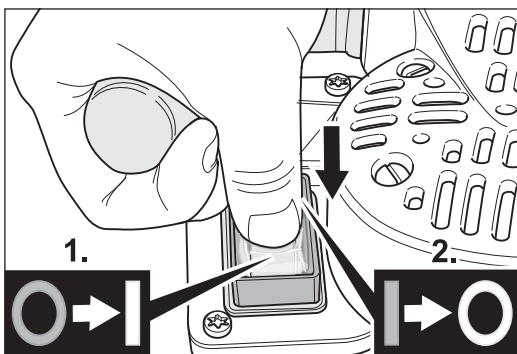

Fig. 8 Start (1.) and switch off (2.) the machine using the rocker switch.
- 2 Flip the rocker switch to "I" (Fig. 8, 1.). The switch button will snap into the place and the motor will be started.
- 2 Flip the rocker switch to "0" (Fig. 8, 2.). The switch button will snap into the place and the motor will be switched off.